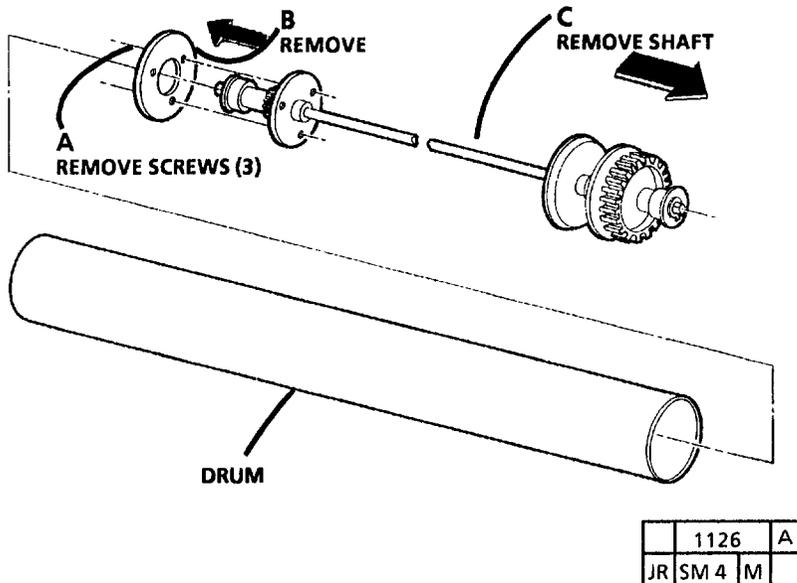

Figure 1. Remove Photoreceptor Drum Shaft
- (FIGURE 1): REMOVE PHOTORECEPTOR DRUM SHAFT.